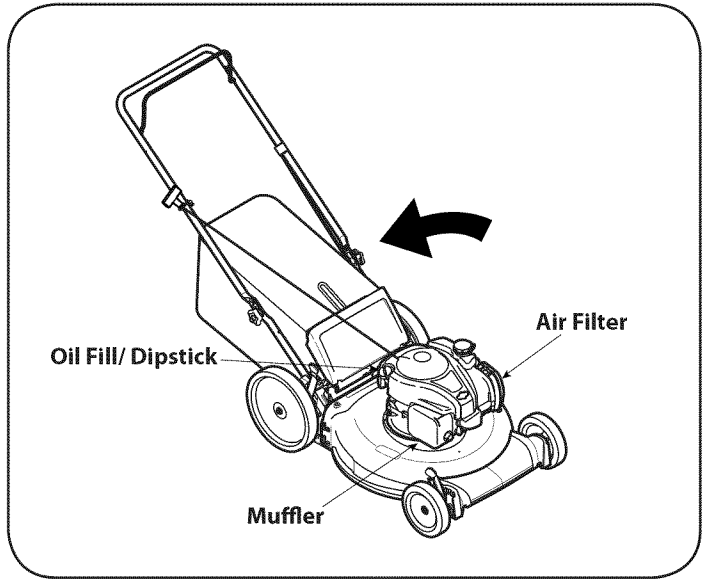

Figure 16
3. Remove the oil fill dipstick and drain the oil into the container by tipping the engine toward the oil filler neck. See Figure 16.
2. Tip mower so that it rests on the housing, keeping the muffler side down. Refer back to Figure 16. Hold mower firmly.